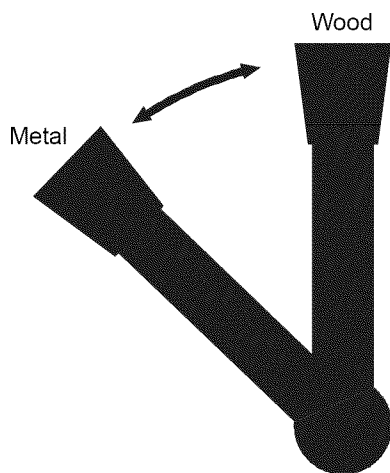

Figure 2 - Clutch Handle Position
Refer to Figure 2, 6-11.
Refer to Figures 2, 8 and 9.
- Position clutch handle (Figure 8, Key No. 62) to "Metal". See Figure 2.
Refer to figures 2, 7, 8, 9 and 11.
- Position clutch handle (Figure 8, Key No. 62) to "Wood". See Figure 2.